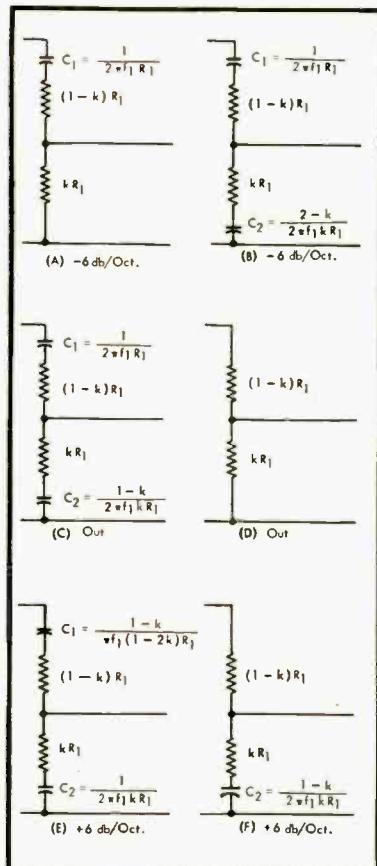

Fig. 3. Circuit configurations and formulas for bass equalizer section.
For a selection of a 3-db frequency of 300 cps and a 6-db-per-octave bass droop, the bass equalizer reduces to the circuit of (A) in *Fig. 3*, where the total resistance  $R_1 = 0.1$  megohms approximately,  $k = 1/20$ , and  $f_1 = 300$  cps.
If "out" or flat response is chosen, the circuit of (C) in *Fig. 3* is applicable (or (D) if switch connections are made according to the dotted lines of *Fig. 1*). The capacitive divider in this case has the same loss as the resistive.
If an elevated 6 db plateau is chosen, the circuit of (E) in *Fig. 3* is applicable. A capacitive divider with 6 db less loss than the resistive begins to take over in the region of the nominal 3-db frequency.
It will be evident that the capacitors in Figs. 3 and 4 were chosen so that the 3-db points for Figs. 3A and 4A would be exactly  $f_1$  and  $f_2$ , and so that the attenuations of the capacitive voltage dividers would be exactly  $k/2$ ,  $k$ , or  $2k$  as called for. For small values of  $k$ , the expressions for calculating the capacitances become quite simple.